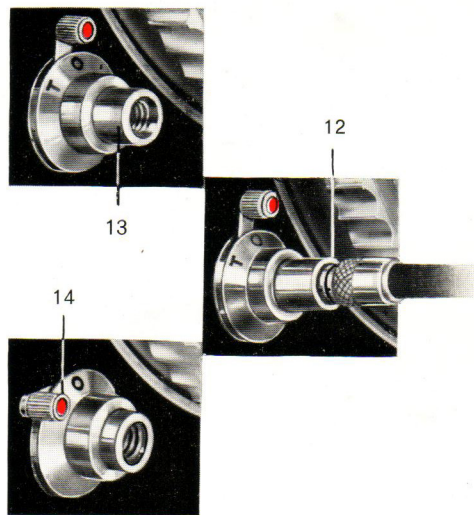

Fig. 13
- the time catch is at T and the release button has not returned to its original position. See page 13, Fig. 13.